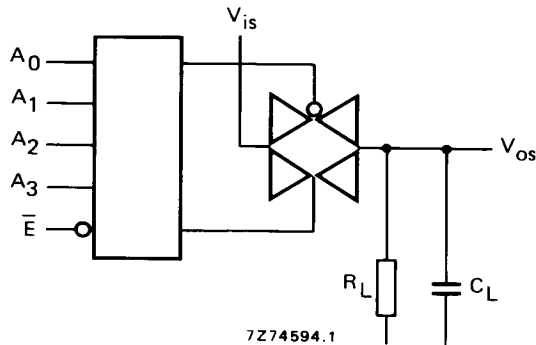

Fig. 7.
- $R_L = 10\text{ k}\Omega$ to V_{SS} ; $C_L = 50\text{ pF}$ to V_{SS} ; $\bar{E} = V_{SS}$; $V_{is} = V_{DD}$ (square-wave); see Fig. 7.
- $R_L = 10\text{ k}\Omega$; $C_L = 50\text{ pF}$ to V_{SS} ; $\bar{E} = V_{SS}$; $A_n = V_{DD}$ (square-wave); $V_{is} = V_{DD}$ and R_L to V_{SS} for t_{PLH} ; $V_{is} = V_{SS}$ and R_L to V_{DD} for t_{PHL} ; see Fig. 7.
$V_{is} = V_{SS}$ and R_L to V_{DD} for t_{PLZ} and t_{PZL} ; see Fig. 7.
- $R_L = 10\text{ k}\Omega$ to V_{SS} ; $C_L = 15\text{ pF}$ to V_{SS} ; $\bar{E}$ or $A_n = V_{DD}$ (square-wave); crosstalk is $|V_{os}|$ (peak value); see Fig. 7.